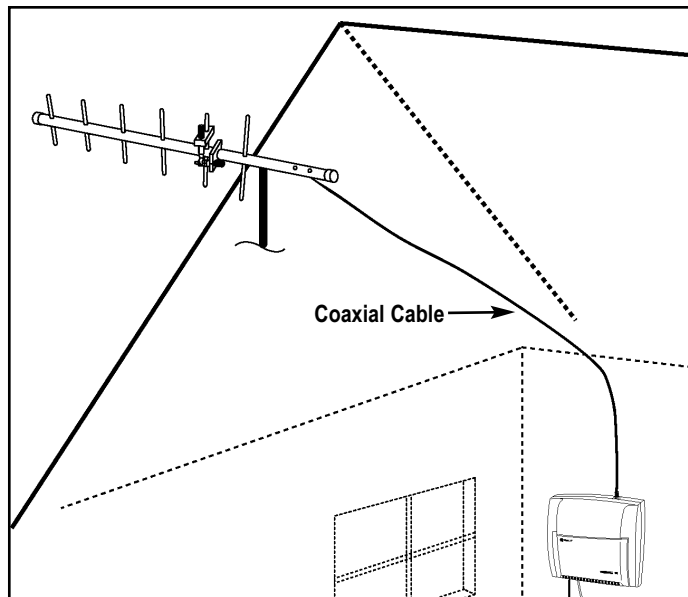

Fig. 2 Optional high-gain antenna installed on the building's exterior. Always direct the antenna toward the nearest cell tower of your service provider.
- In low signal areas, the antenna should be mounted on the building's exterior – see **Fig. 2**.